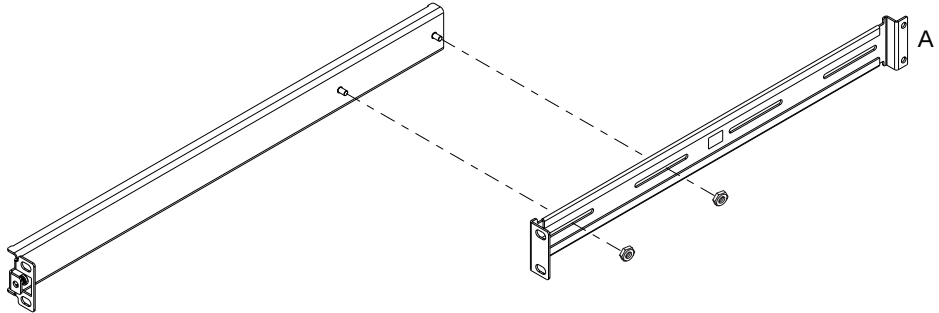

FIGURE 5-2 Slide Mounts for Sun 72-inch Expansion Rack
1. **Position the two parts of the slide so that the double-angled ear (A) is to the rear.**
2. **Make sure that the front and rear mounting ears are the correct distance apart, and loosely secure the two parts together using the M4 nuts supplied (see FIGURE 5-2).**